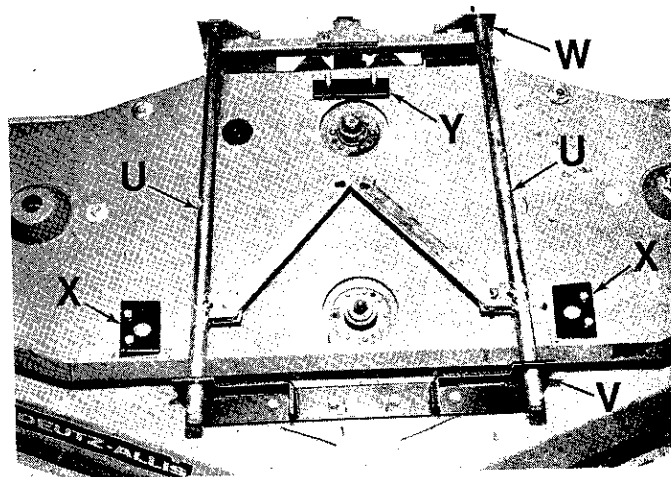
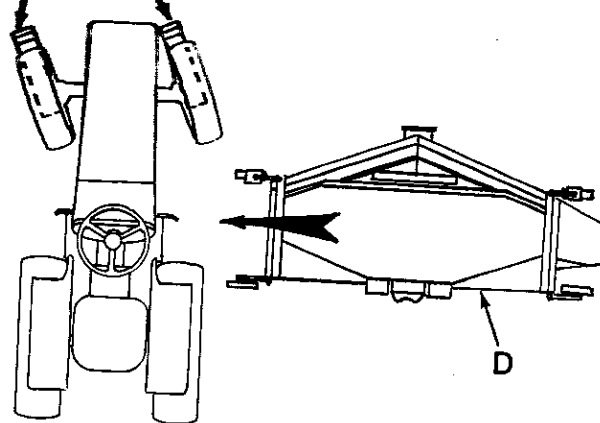

FIG. 9
FIG. 10
Install two upstop spacers (X) to front of mower and upstop spacer (Y) to rear of mower. (See Fig. 9)
Mower lift bars (U) must be removed from the mower deck to allow mower to be placed under the tractor. Slide mower lift bars (U) to the rear of the mower deck to remove them from the front lift anchor (V). Raise the lift bars (U) slightly and slide them forward from the rear lift anchor (W). (See Fig. 9)
Mower wheels must be pivoted to 90 degree from normal direction of mower travel to allow mower to be placed under the tractor from the side. Rear wheels of mower have been inserted into the mower pivot brackets upside down for shipping purposes and must be removed from the pivot brackets and re-inserted with the wheels down before pivoting to the 90 degree position. (See Fig. 10)
1. Put mower deck (D) at right side of tractor. (See Fig. 10)
4. Move mower deck (D) under tractor until the mower deck is centered.
6. Re-install mower lift bars (U) into mower by first inserting into rear lift anchors (W), then sliding mower lift bars (U) forward into front lift anchors (V). (See Fig. 9)